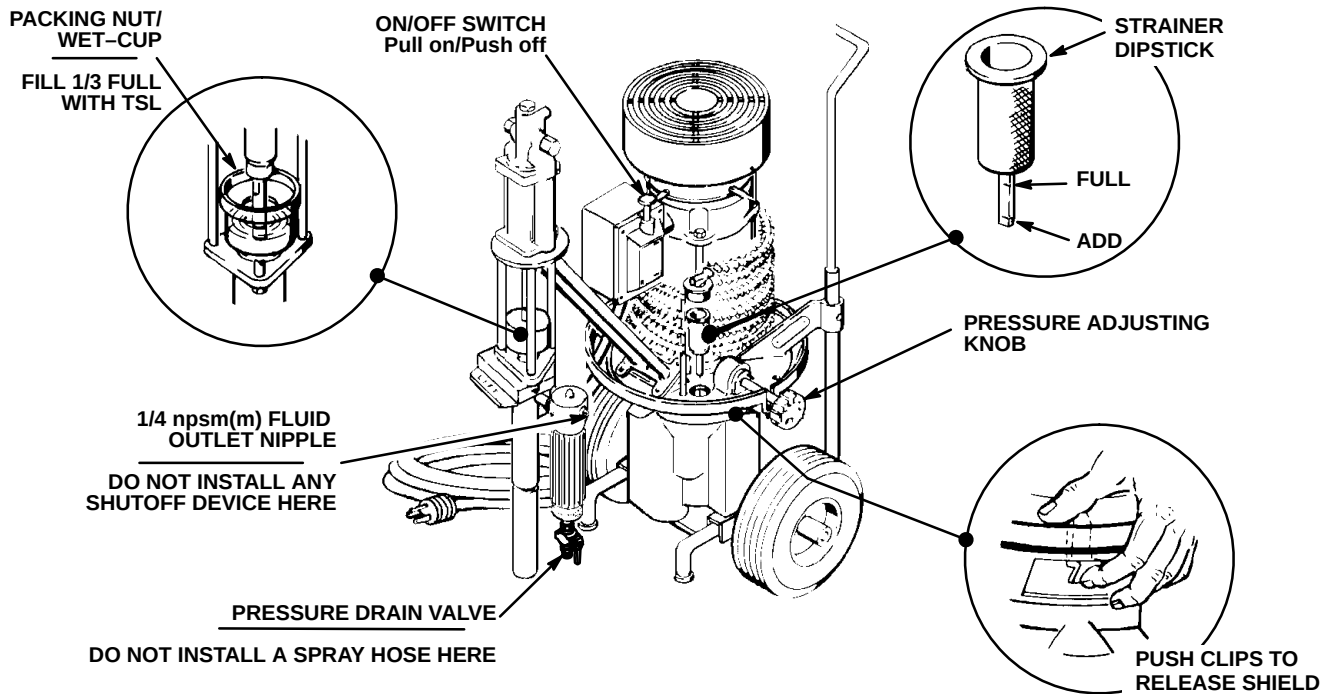

Fig 1
- 1 **Check the Hydraulic Fluid** (See Fig 1.) Push in on the two spring clips and lift the shield off the sprayer.
- 3 **Fill the packing nut/wet-cup 1/3 full** with Graco Throat Seal Liquid (TSL), supplied. To access the cup, push in on the two spring clips and remove the sprayer shield. See Fig 1.